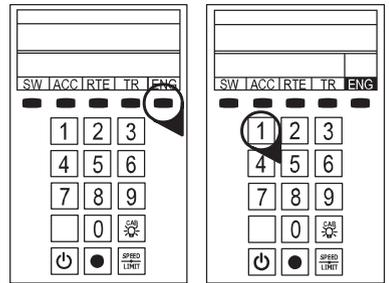

Figure 2. LEGACY engine selection
- 4. As illustrated in Figure 2, press ENG and 1 (or your selected ENG ID#) to address the locomotive with your LEGACY CAB-2 Remote Controller.**